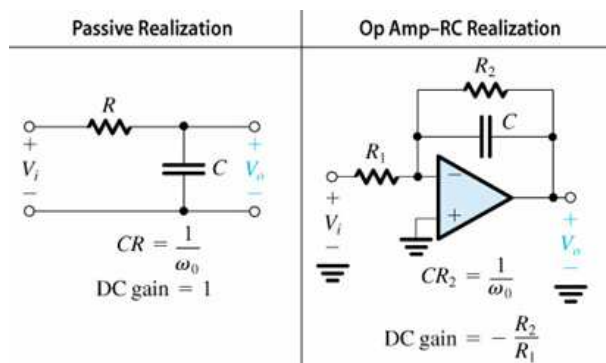

Figure 3.1: First-order low pass filters.
Figures 3.1 and 3.2 show how first-order low-pass and high-pass filters can be implemented. In each case, there is a passive implementation (i.e. using only passive components, viz. a resistor and a capacitor), and an active implementation (i.e. with an active component, viz. an op-amp). We will use the passive implementations to separate the components of a signal. Separating a signal's components is important in practice to eliminate noise from experimental measurements.
- the active filters in figures 3.1 and 3.2 (which you could use in class instead of the passive filters),
5. Build the passive low-pass filter in figure 3.1 using the capacitor and the potentiometer. Connect the summing op-amp circuit's output to its input, and its output to channel Y of the oscilloscope. Vary the resistance of the potentiometer to eliminate the high frequency oscillation, without altering the low frequency oscillation. Sketch what you see.